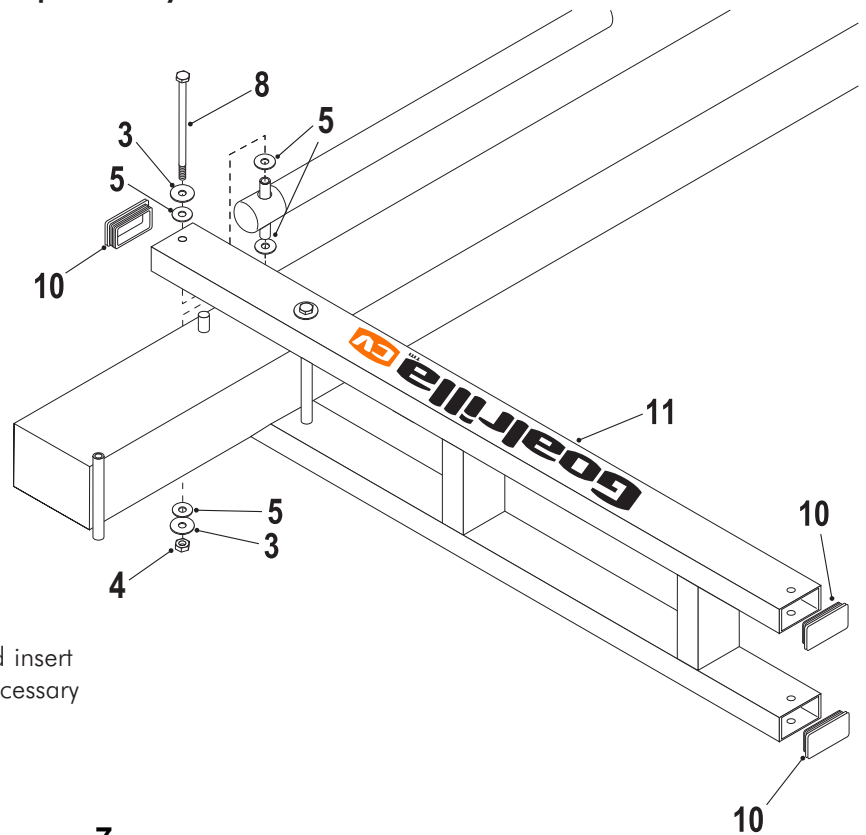

Figure 6
- Secure Actuator (#16) to Lower Arm (#11) using one bolt (#8), two flatwashers (#3), four plastic washers (#5) and one thin locknut (#4). See Figure 6. Tighten both bolts (#8) **snug but, do not over tighten. Board Arms must pivot freely.**